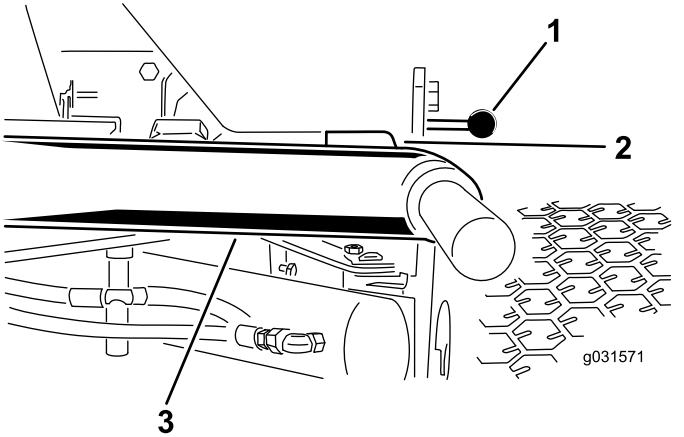

Figure 6
1. Start the engine, raise the cutting units, and ensure that the clearance between each lift arm and the floor-plate bracket is 5 to 8 mm (0.18 to 0.32 inch) as shown in Figure 6.